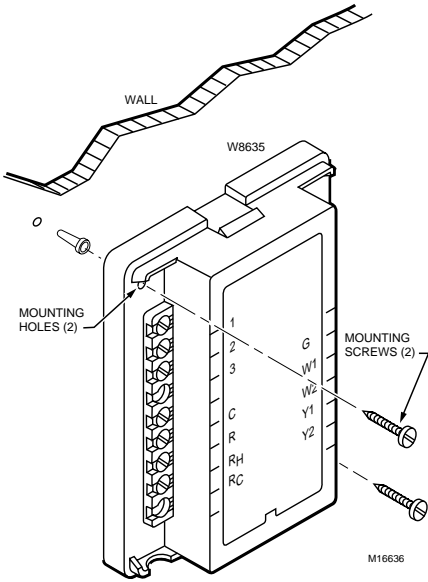

Fig. 2. Mounting W8635A Equipment Interface Module.
3. Locate the two mounting holes. See Fig. 2.